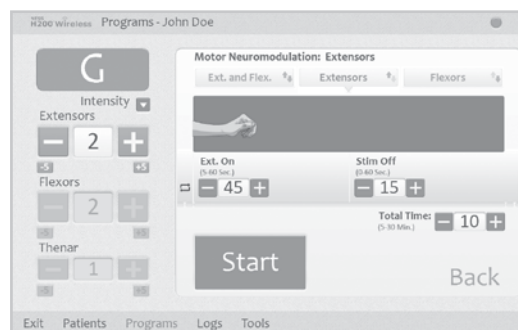

Figure 8-25: Program G, Extensors Window
1. Adjust extensors on time, stimulation off time, and total time. See Figure 8-25.